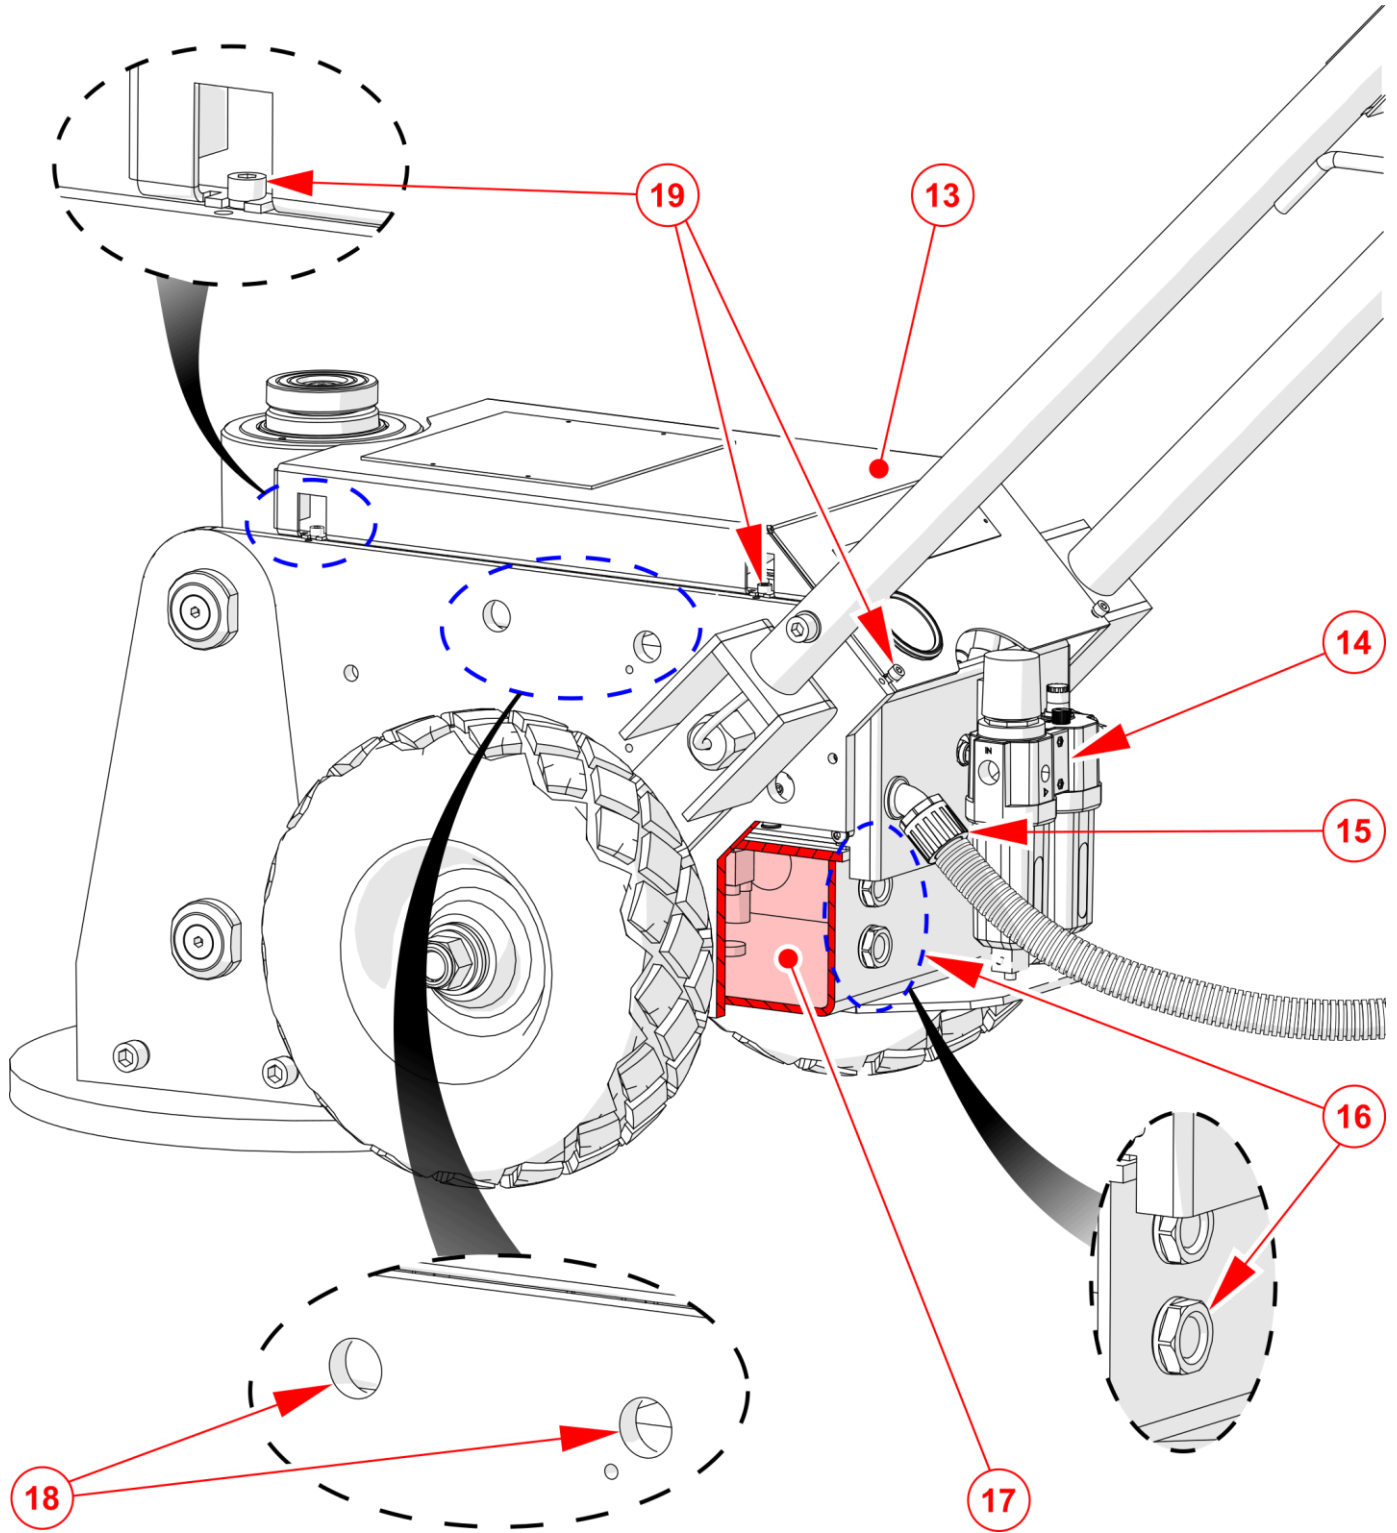

Figure 4.3: Component Identification
- Open the Top Cover (13), by removing the 6 Cap Screws (19) holding the cover in place. (See figure 4.3 - Item 19, for screw locations).
- Remove the filler cap (9) from the filler breather.
- Fill the reservoir with clean, high-quality ISO46 hydraulic oil via the filler breather until the oil level reaches the centre of the upper oil level gauge sight-glass (16).
- Replace the filler cap (9) on the filler breather.
- Replace the Top Cover (13) and 6 Cap Screws (19). **DO NOT** operate the ToughLift without the Top Cover securely in place.